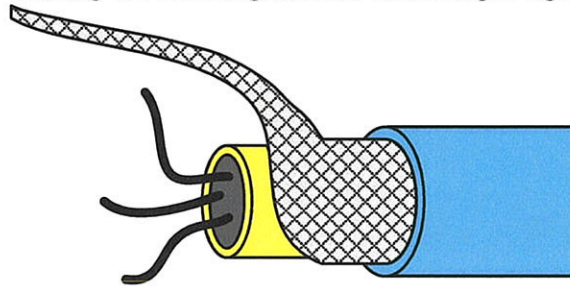

Fig. 1: Twisted shielding material
1. Twisting the shielding material according to figure 1.